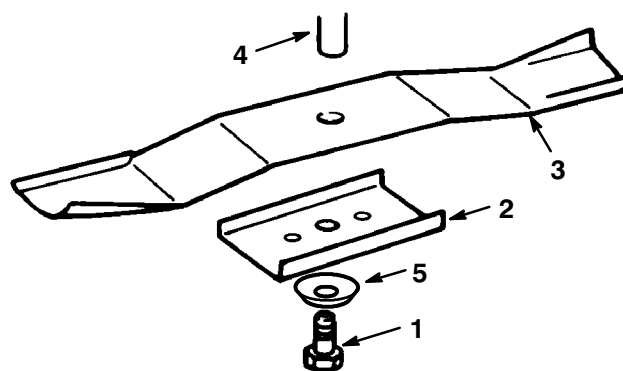

Figure 25
1. Install the blade, blade retainer, washer, and the blade bolt (Fig. 25).